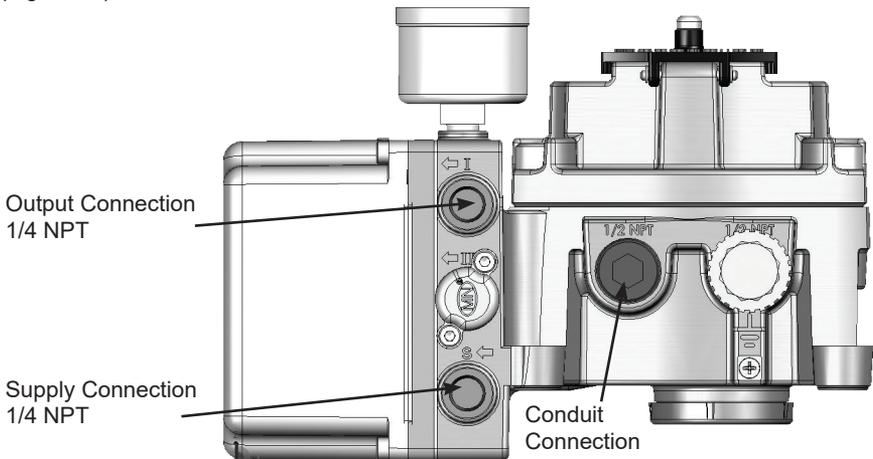

Figure 23 - Single-Acting Air Ports
1. Install the tubing to the air supply port (S-). Minimum tubing diameter 1/4" (6 mm x 4 mm) (Figure 23).